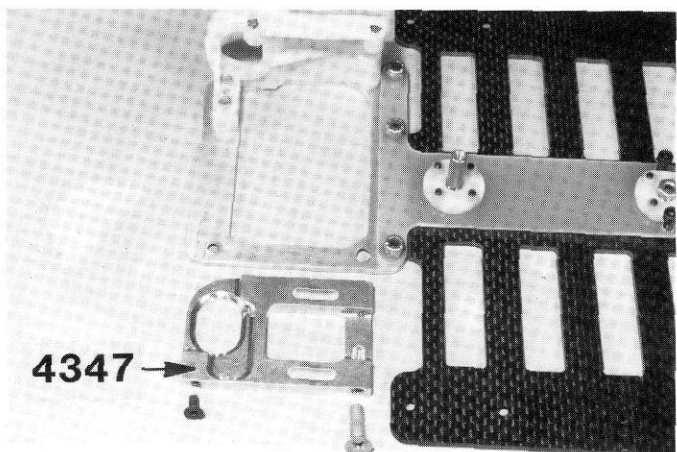

Fig. 27
□ **Figs. 27 & 28**— Mount the #4347 right hand aluminum bulkhead to the lower brace with one allen screw and one Phillips screw.